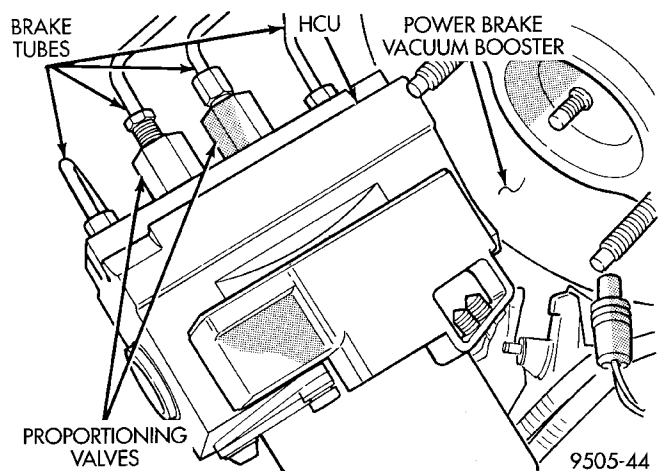

Fig. 29 Proportioning Valve Locations On HCU
One proportioning valve controls the right rear brake, and the other proportioning valve controls the left rear brake (Fig. 29). Since ABS cycles both rear brakes together, both valves must be tested to isolate the suspect proportioning valve.
(1) Road test vehicle to verify premature rear wheel ABS cycling, refer to (Fig. 29) to determine which proportioning valve needs to be tested.
(2) Remove hydraulic brake tube (Fig. 29) from one of the proportioning valves.
(3) Then remove proportioning valve from that outlet port of the HCU.